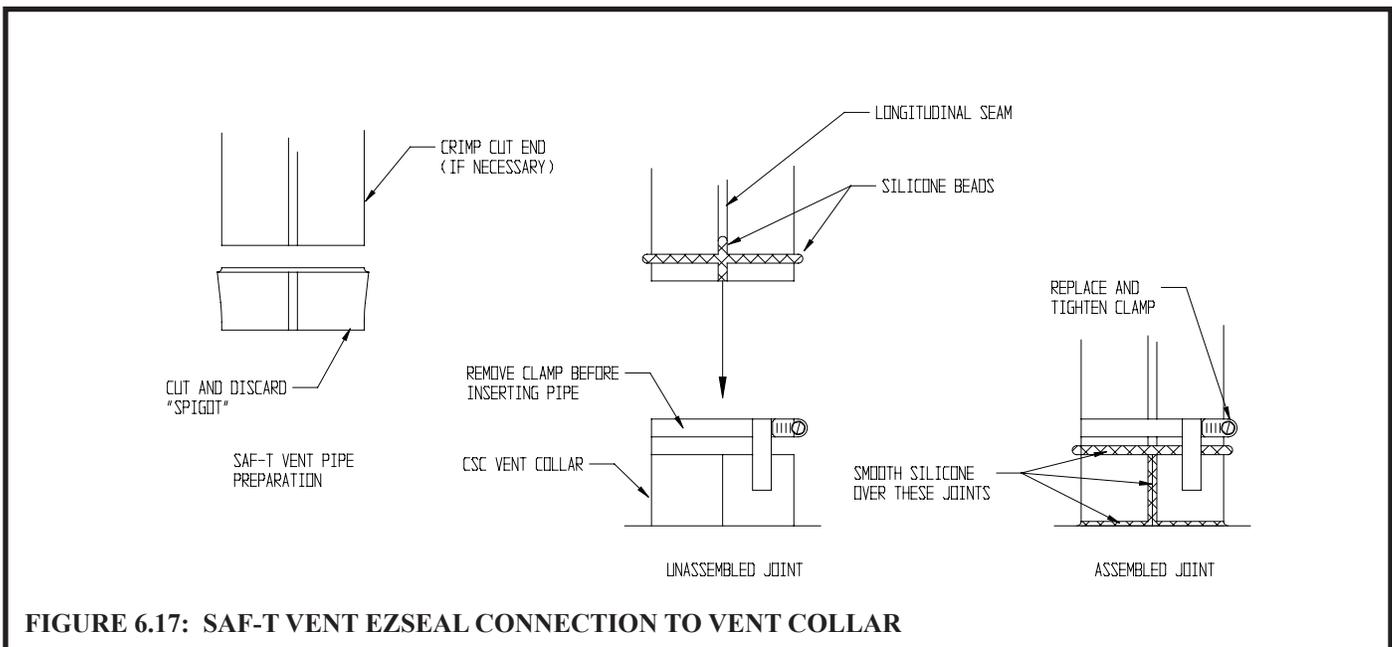

FIGURE 6.17: SAF-T VENT EZSEAL CONNECTION TO VENT COLLAR
- b) Connection to Boiler – Start assembly of the vent system at the boiler. Remove the hose clamp shipped on the CWD vent collar. Bend the three hose clamp tabs on this collar outward slightly. Cut the male “spigot” off of the first piece of pipe (Fig 6.17). If necessary, crimp the cut end of the pipe so that it can be inserted at least 1” into the collar. Clean the exterior of the male end of the first piece of pipe and the inside of the vent collar on the boiler with an alcohol pad. On the male end of the pipe, apply a ¼” wide bead of high temperature silicone approximately ½ inch from the male end of the pipe. Also apply a ¼” bead of silicone along the first 2 ½” of the longitudinal weld. Insert the male end of the pipe into the boiler vent collar until it bottoms out. Apply an additional bead of silicone over the outside of the joint and smooth out (Fig 6.17). Apply silicone over the seams in the vent collar. Replace and tighten the clamp on the vent collar.